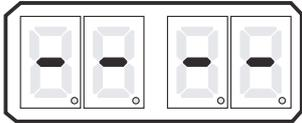

Figure 5-2: Display LED at Normal Operation
- The Display LED during Normal operation has running red center dash lines (Figure 5-2: Display LED at Normal Operation)